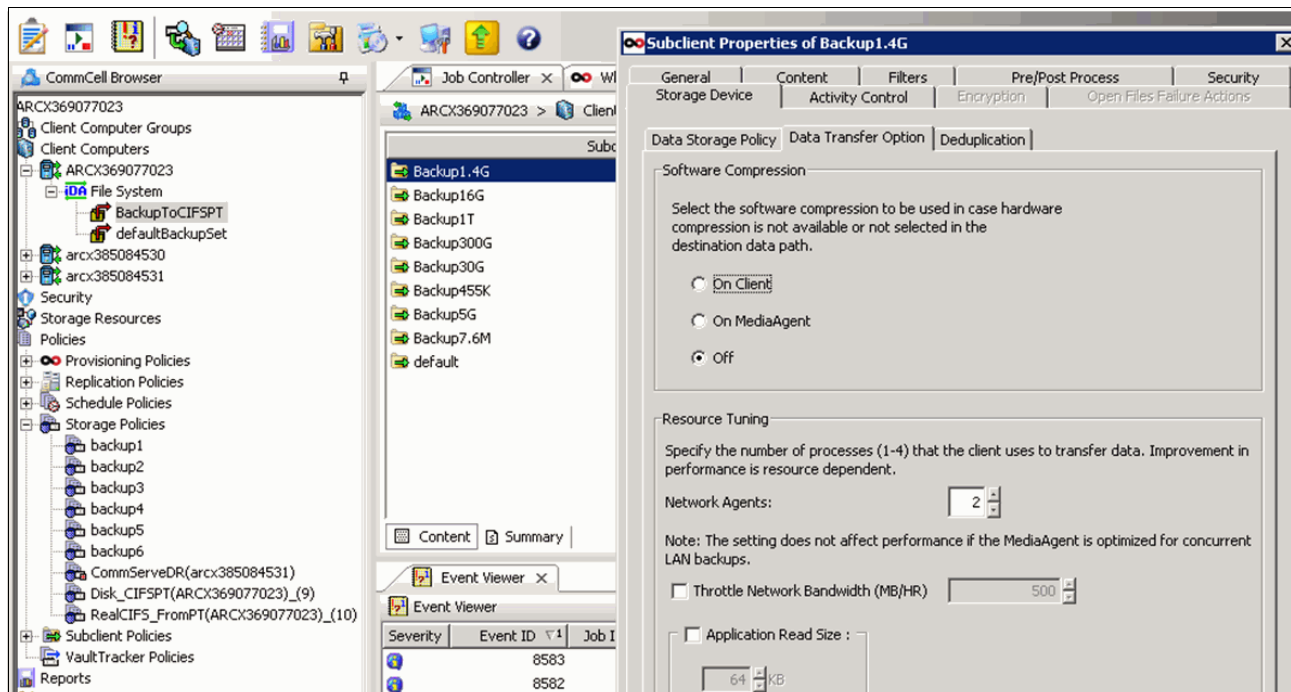

Figure 18-20 Set software compression off
3. Click the **Data Transfer Option** tab and select **Off** for the Software Compression option for this subclient (Figure 18-20).